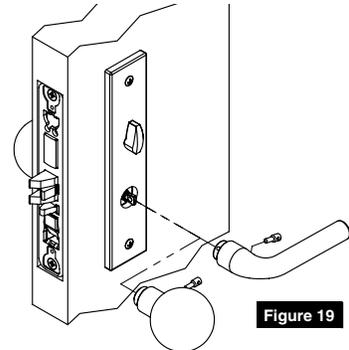

Figure 19
5. Install inside lever or knob by inserting dowel screw. (Figure 19)